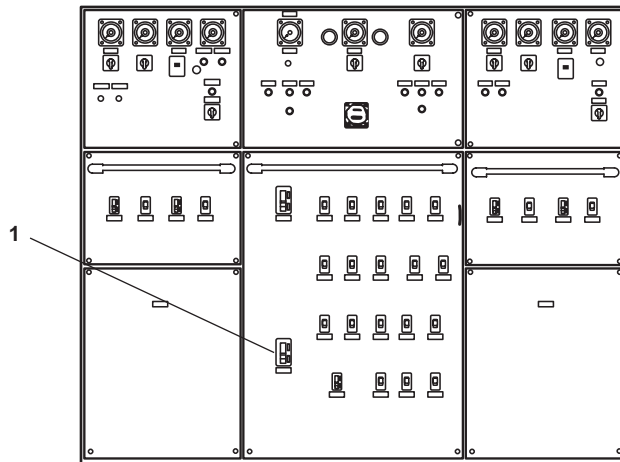

Figure 3. Main Switchboard
3. In the enclosed operating space, at the main switchboard, set the BUS TIE CIRCUIT BREAKER (figure 3, item 1) to ON. Place all other main switchboard circuit breakers in the OFF position.